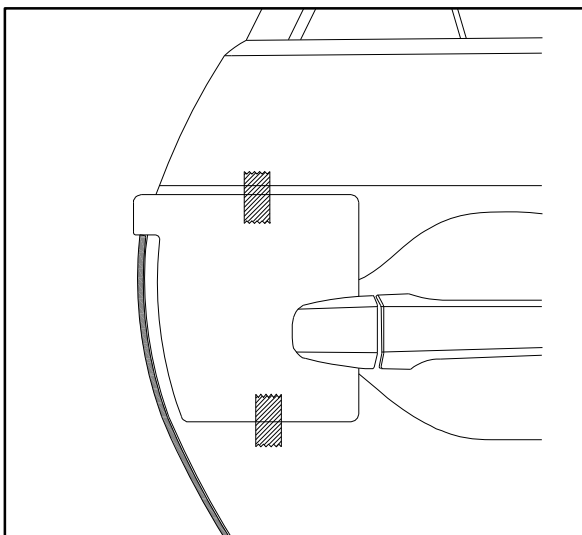

Fig. 1-4
**NOTE:** Top of DEG can be identified by matching the profile of DEG to the door profile. (Fig 1-4)